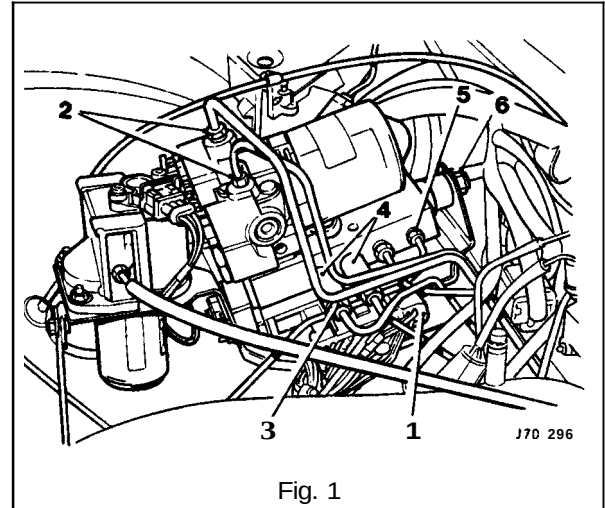

Fig. 1
- Fit and tighten the securing nuts (6 Fig. 1).
- Connect the front hydraulic brake pipes (5 Fig. 1) to the hydraulic control module, removing plugs immediately prior to connection. Tighten the gland nuts.
- Fit the PCRVs (4 Fig. 1) to the hydraulic control module, removing plugs immediately prior to connection. Tighten the PCRVs.
- Connect the rear hydraulic brake pipes (3 Fig. 1) to the PCRVs, removing the plugs immediately prior to connection. Tighten the gland nuts.
- Connect the TMC hydraulic brake pipes (2 Fig. 1) to the hydraulic control module, removing the plugs immediately prior to connection. Tighten the gland nuts.
- Reposition and connect the multi-plug connector. Tighten the securing bolt (1 Fig. 1).
- Connect a bleeder tube and bottle to the bleeder screw (1 Fig. 1) and open the bleeder screw.